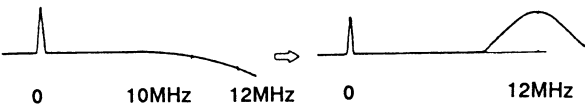

Fig. 3-2
- Adjust output waveform peak to 12MHz with CV102 of the BA3 board as shown in Fig. 3-2.